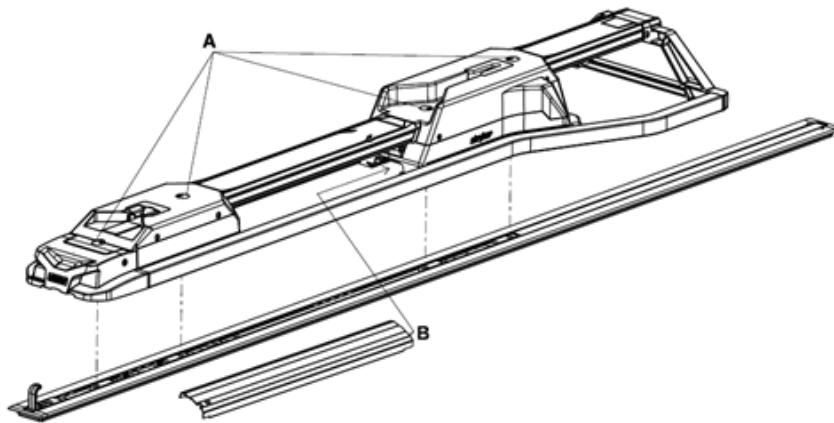

Figure 1:
3. Using a socket wrench and a 3/8" hex wrench, loosen the fasteners (A) that secure the fastener to the floor plate (Figure 1 on page 1).
4. Remove the center floor plate cover (B) and disconnect the fastener to vehicle cable, if applicable (Figure 1 on page 1).